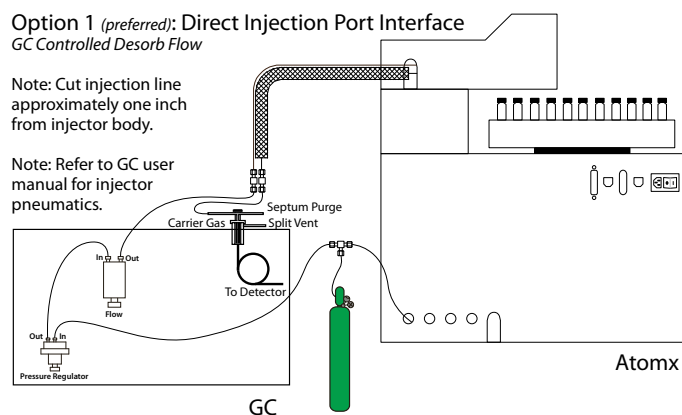

Figure 2-1: Connecting to a Sample Gas Supply
- Connect the 1/8" (0.32cm) brass tee found in the Kit Box to the carrier gas supply line and the GC as shown in Figure 2-1
When you make the connections illustrated in Figure 2-1, the GC supplies and controls carrier gas flow to the Atomx. Using this configuration keeps the GC injection port free for direct sample injections. Generally speaking, you cannot use a Cryofocusing Module with the configuration shown in Figure 2-1.
2. Open the line at a point one inch from the injector housing. If a union connects tubing from the carrier gas supply to the injector port inlet, disconnect the union. If there is no union, cut the line and install the 1/16" (0.16cm) -1/16" (0.16cm) union from the Kit Box. (Reference Figure 2-1)